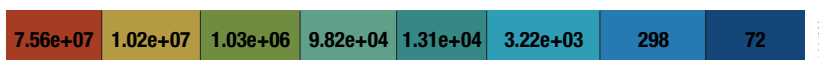

Figure 55. Results plate map with heat map display (Panel A) and example of heat map colors applied to the results in the plate map (Panel B).
- Once the protocol is finished, results are shown in a heat map format to indicate wells with higher or lower signals in comparison to the entire plate (Figure 55, Panel A). The software automatically scales the color selection, assigning the highest values red and the lowest values blue, along a gradient (Figure 55, Panel B). To turn off the heat mapping of the data, touch the small plate map button at the top right side of the information bar above the data plate map. Touch the ellipsis to the left of the small plate map button to enter notes that will appear in the information bar. The results may be viewed in decimal or scientific notation format by selecting the **Data Format** button next to the heat map button. Whichever data format is selected also will be used when the results are exported.